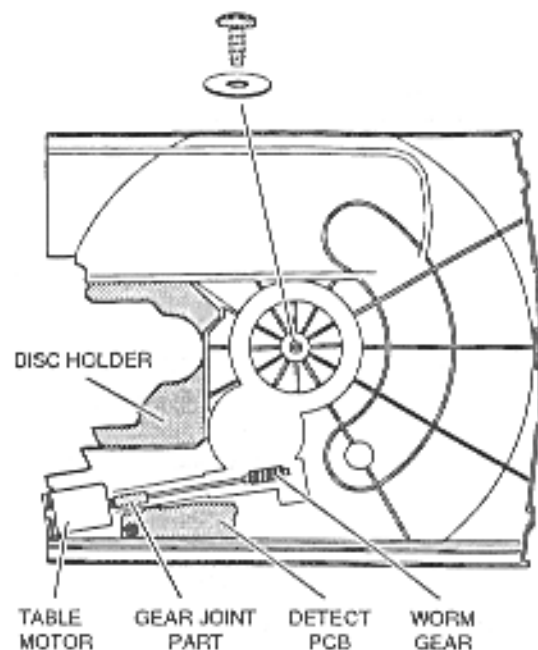

Fig. 3-13
- 4) Remove the TABLE MOTOR by pulling it out while opening the TABLE MOTOR retaining hook. Next, remove the WORM GEAR BLOCK by pulling the GEAR JOINT PART out and attach it to the new motor as shown in Fig. 3-13.